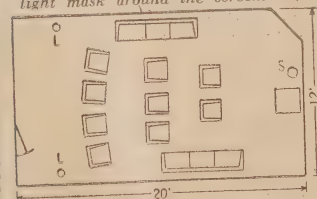

Figure 1: Layout of original viewing room.
After watching this, with other members of the family, and also viewing other receivers under various conditions I feel qualified to offer some observations. At first, while the receiver was new, and we had many visitors it was placed in the lounge room (see fig. 1) in the position marked and the chairs arranged, brought from other rooms, as in a theatre. A standard lamp (S) was placed beside it, this lamp being fitted with a semi-translucent fabric shade and a 40 watt lamp. Also a small cork mat was placed inside the bowl in front of the lamp to prevent direct light reaching the viewers' eyes.